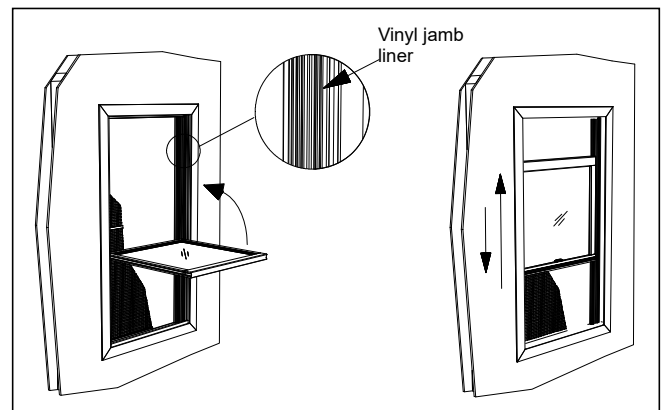

Figure 10
- Tilt sash up and depress vinyl jamb liner on both sides. This will ease sash into position in the jamb liner. See figure 10.
- Once sash is in position, slide it down until cam pivots contact locking terminal assemblies in both jamb liners. This will release locking terminal assemblies and allow top sash to travel up and down. See figure 10.